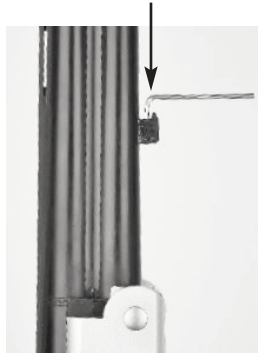
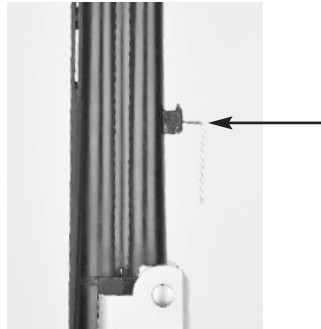

Figure 7a
Figure 7b
8. On some models, you can adjust the tightness of the forearm latch by tightening the set screw on the barrel (Figure 7a and 7b).
9. With the allen key provided with your firearm, loosen the screw shown in Figure 7b.
10. Adjust the tightness of your forearm latch by adjusting the screw shown in Figure 7a. Once adjusted to your liking, tighten up the screw shown in Figure 7b.